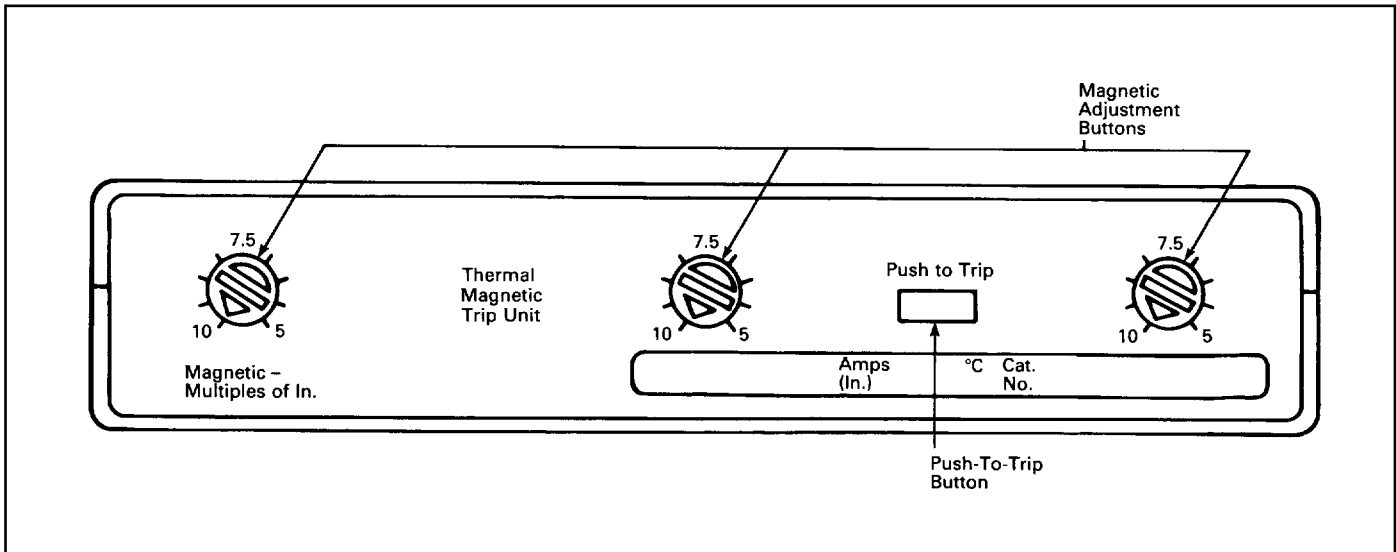

Fig. 2-3 Trip Unit Magnetic Adjustment Buttons.
**Adjustable Thermal:** Trip units having an adjustable thermal element are adjusted within the range shown in Table 1-2 with a single adjusting button (see Fig. 2-3).
**Magnetic Trip:** The magnetic trip on each pole may be adjusted by turning the adjustment button with a screwdriver (see Fig. 2-3). In the magnetic trip region (above  $6 \times I_n$ ), the trip current levels can be up to approximately 40% higher for DC than for AC, depending on the rating.
- 2-11. Press PUSH-TO-TRIP button with a small screwdriver to check manual tripping of the circuit breaker (see Fig. 2-3).
ues in multiples of the trip unit ampere rating ( $I_n$ ) as shown in Fig. 2-3.
2-12. Adjust magnetic pick-up settings as required (see Fig. 2-3).